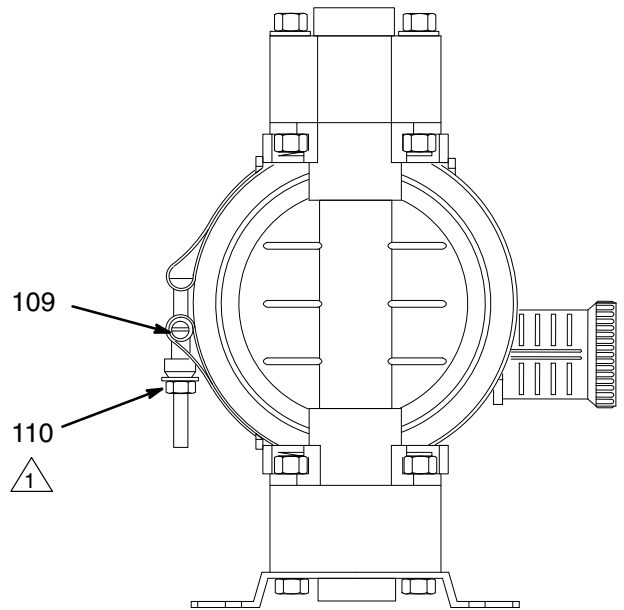

Fig. 7
When tightening the clamps (109), apply thread lubricant to the bolts and **be sure** to torque the nuts (110) to 75–85 in-lb (8.5–9.6 N.m). See Fig. 7.